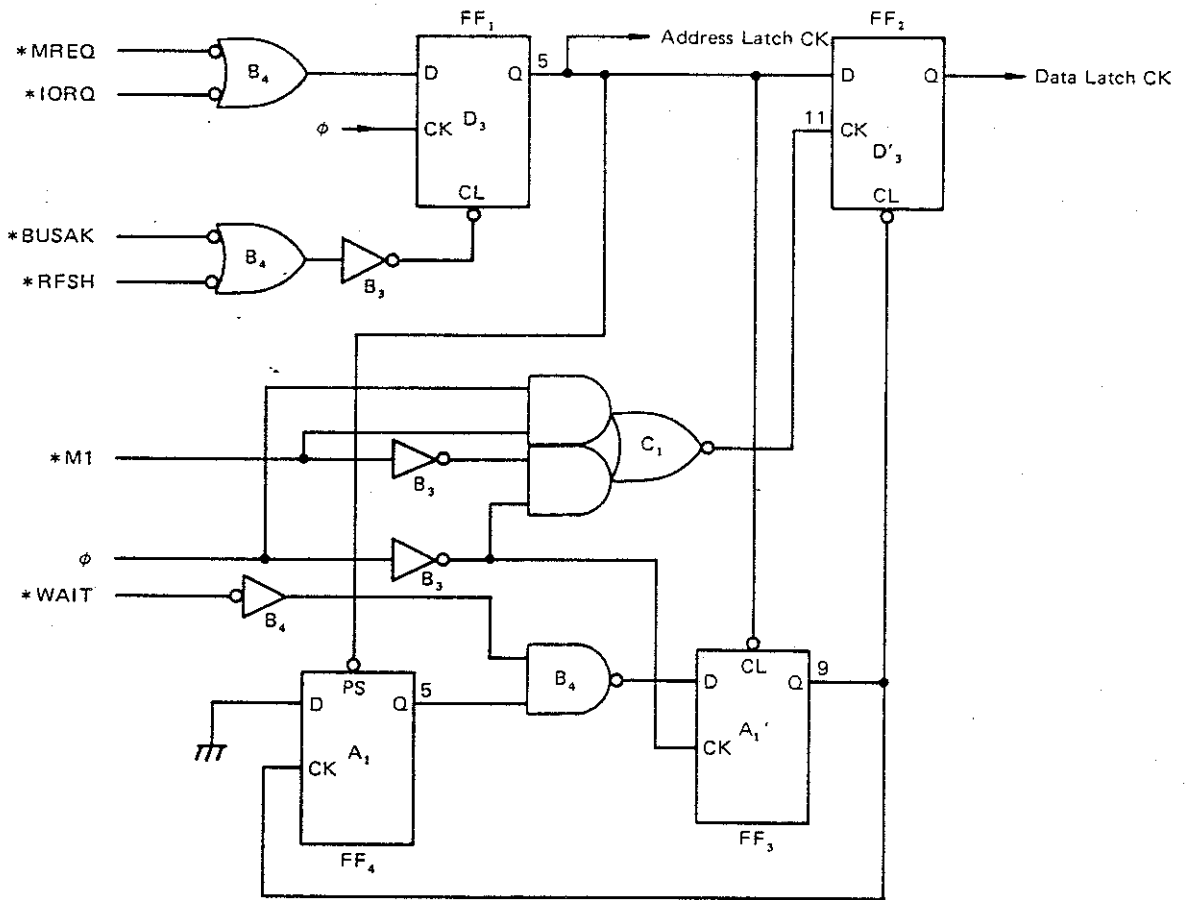

Fig. 6.2 Latch clock generator circuit
- 3) After step (2) above, wait check is performed at the trailing edge of the next clock ϕ .
- 8) See Fig. 6.2 for the latch clock generator circuit and Fig. 6.3 for the data sampling timing chart.